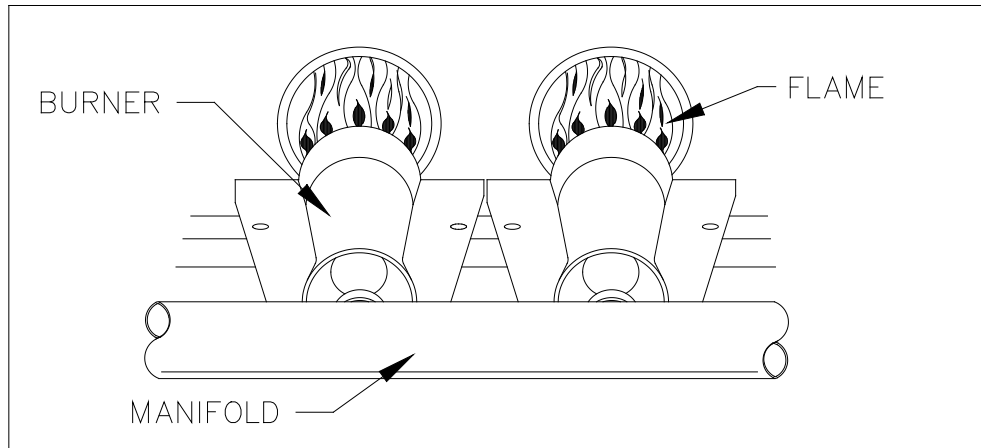

Figure 8
c. Make sure that the gas supply pressure to the furnace is within the allowable range of 5.5" to 14" WC pressure on natural gas and 11.0" to 14.0" WC on propane gas. The pressure to the furnace must be checked while the furnace burner and any other gas appliances on the same supply system are operating, using the 1/8 in. NPT manifold pressure tap shown in figure 8.
This unit is designed to not require any burner adjustment. The flames should be checked by looking through the sight glass located on the burner box. Burner flames should be clear, blue, and almost transparent in color. (See Figure 8). **NOTE:** It is not unusual to have mostly blue flames with yellow or orange tips visible in the tube for propane gas.